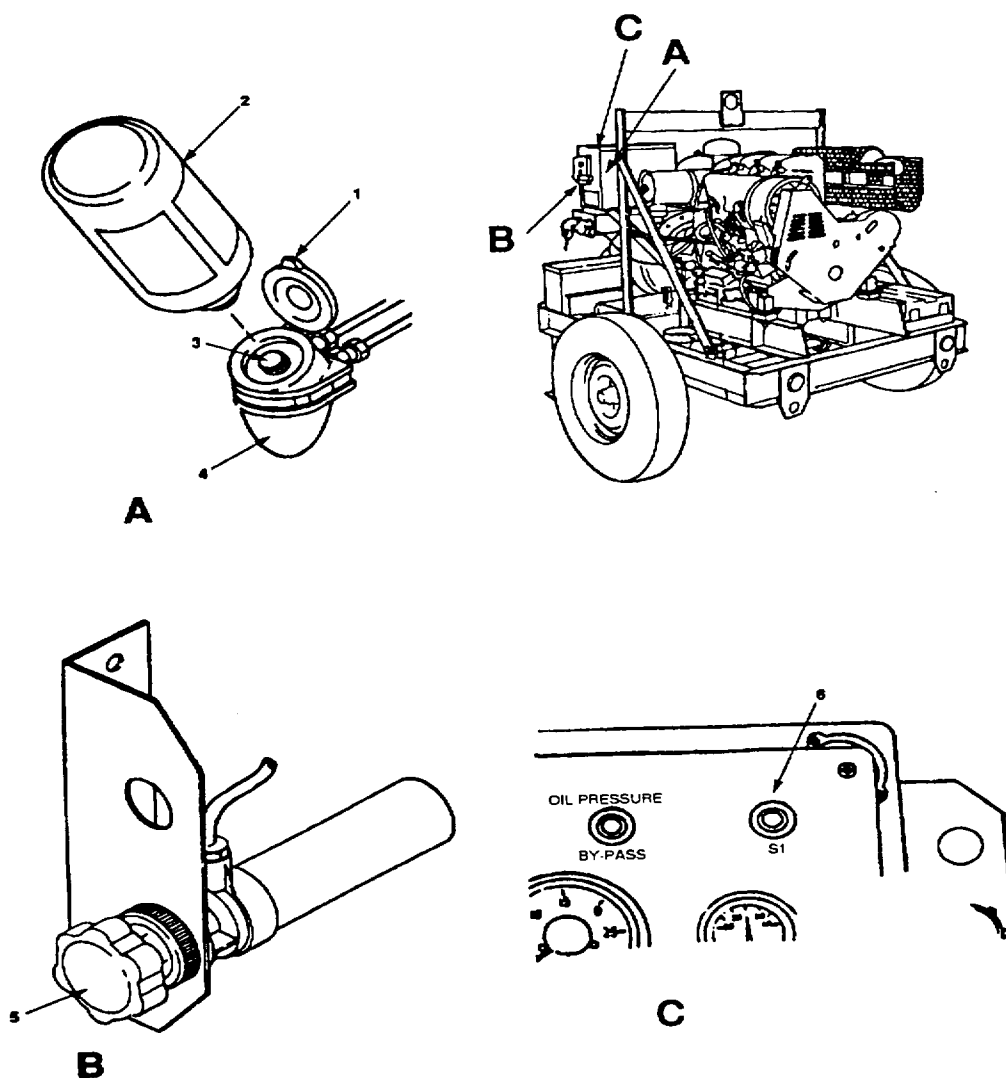

Figure 2-11. Cold Start Reservoir and Pump(All Except Model 350 PAFN).
- a. Open cold start reservoir cover (1, figure 2-11) and force servicing can (2) into nipple (3) on reservoir (4) so fluid flows from can into reservoir.
- (4) Remove fuel tank filler cap from tank and turn cap over.
- (5) Rotate vent valve selector to CLOSED position as shown in Figure 2-11.
- (6) Install cap and secure.
- (1) Remove fuel tank filler cap and turn cap over.
- (2) Rotate vent valve selector to OPEN position as shown in Figure 2-11.
- (3) Install cap and secure.